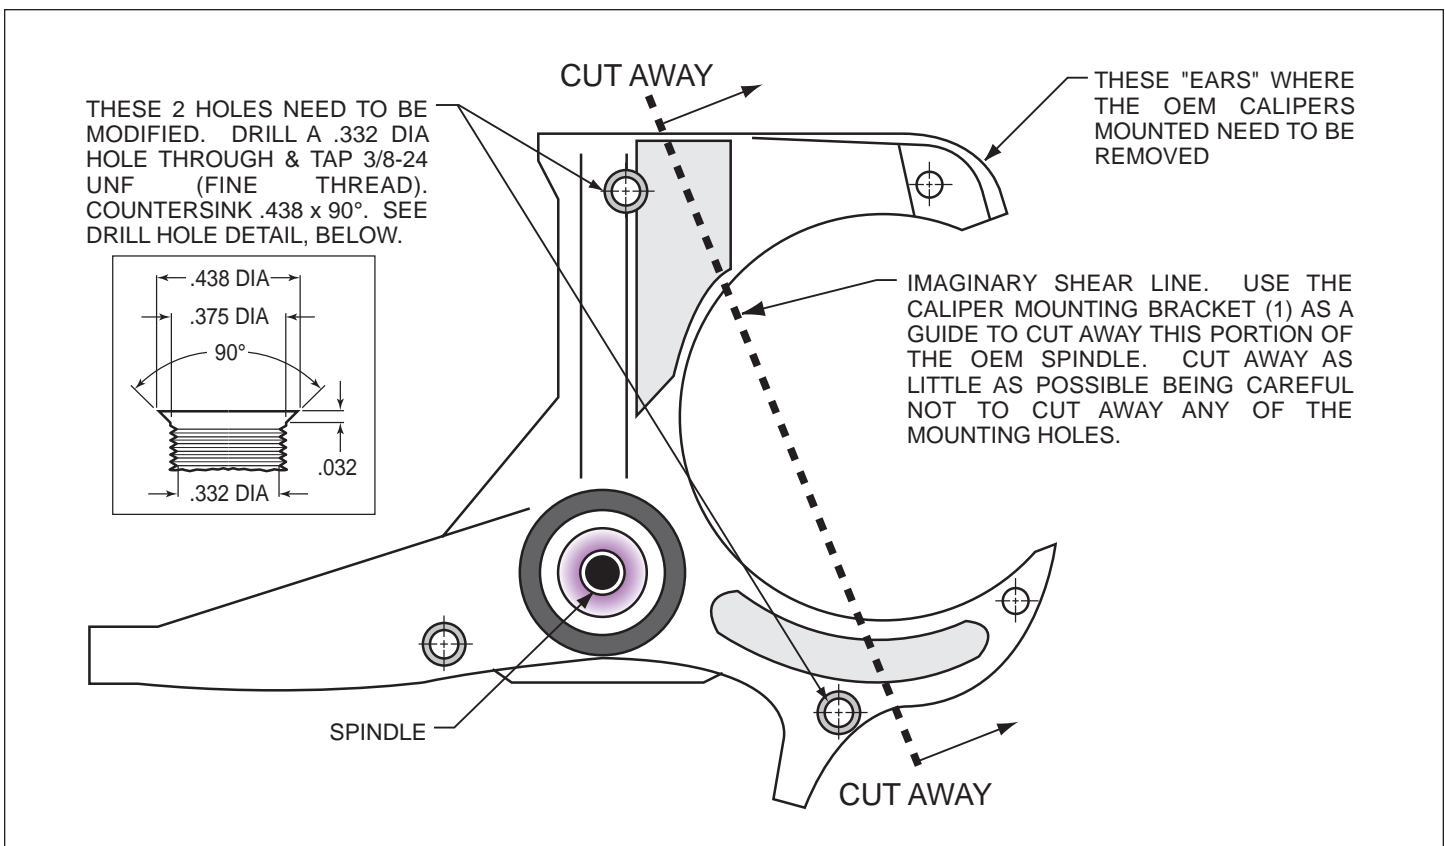

Figure 1. Steering Arm / Spindle Modifications
These modifications should be performed by a qualified machinist. Refer to Figure 1 as necessary (numbers in parenthesis refer to the parts list). Only one view of the steering arm/spindle is shown, but the modifications need to be performed on both steering arm/spindles.
- Apply red *Loctite*® 271 to bolt threads (2) before assembly of the caliper bracket (1) to backing plate face of spindle. Position the caliper mounting bracket (1) onto the spindle while positioning spacers (3) between bracket and spindle face. Slip the mounting bolts (2) into the threaded spindle holes, finger tighten. Torque two bolts (2) to 30 ft-lb. **NOTE:** Be sure the heads of the caliper bracket (1) insert nuts are facing outward toward the wheel.
- Install five new wheel studs (4) into the hub (5). Torque to 77 ft-lb. **NOTE:** There are two five lug patterns in the hub (5 x 4.50 and 5 x 4.75). Make sure of the correct hole pattern for the correct wheel application before installing studs into hub.
- Pack the large inner bearing cone (6) with high temperature disc brake bearing grease (available from your local auto parts store) and install into the backside of the hub (5).
- Install the grease seal (7) by pressing into the backside of the hub (5).
- Orient the rotor (9) and the rotor adapter (8) as shown in Figure 1. Attach the rotor to the adapter using bolts (10). Using an alternating sequence, apply red *Loctite*® 271 to the threads, and torque to 25 ft-lb.
- Mount the adapter/rotor assembly (8/9) to the hub (5) using bolts (11), as shown in Figure 1. Using an alternating sequence, apply red *Loctite*® 271 to the threads, and torque to 55 ft-lb.
- Pack the small outer bearing cone (12) with high temperature disc brake bearing grease and install into front of hub (5). Slide the hub/rotor assembly (5 and 9) with outer bearing cone (12) onto the spindle. Secure using supplied washer (13), original adjusting nut and nut locking device.
- Install the dust cap (15) onto the hub (5). Friction created by the o-ring (14) on the dust cap (15) keeps it from unscrewing. The O.D. of the existing spindle washer may be larger than the I.D. of the dust cap (15) not allowing it to seat against the hub face. Therefore, use the spindle washer (13) supplied with the kit instead of the stock washer.